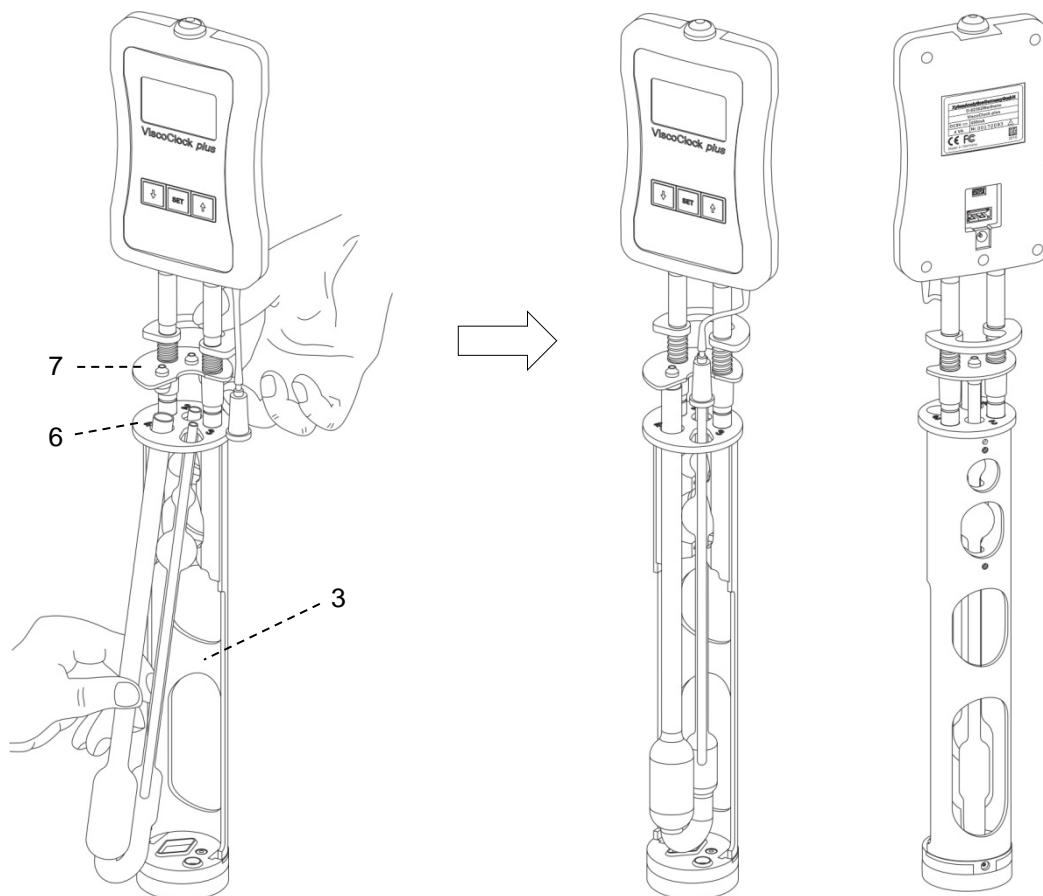

Fig. 3 Inserting the viscometer into the ViscoClock *plus*
Press the guidance plate (7) up against the handle plate (9) (see  Fig. 3).
- Insert the viscometer sloped through the guidance plate (6), and then insert it vertically into the centering (2) prism.